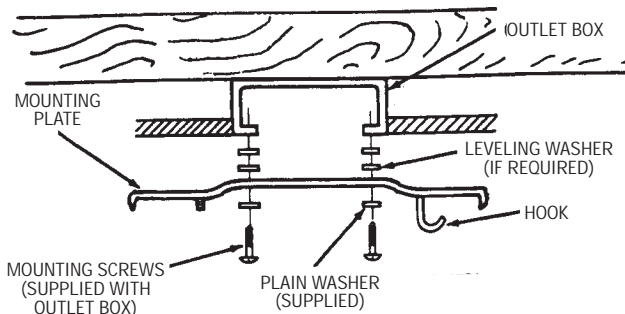
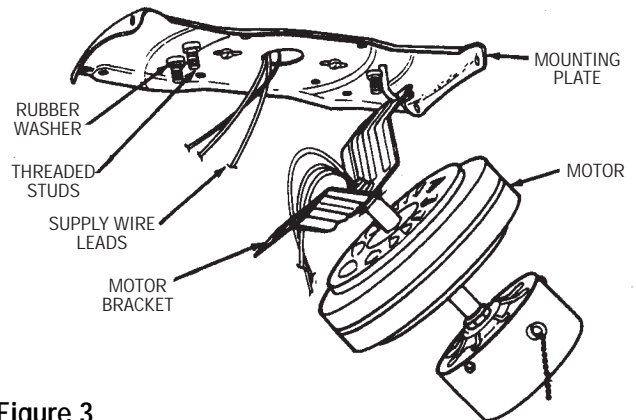

Figure 2
Figure 3
1. Securely attach the mounting plate to the outlet box (Figure 2) using two screws (supplied with outlet box). Pull the black, white and ground wires out of the outlet box through the hole in the mounting plate and lay them to the side as shown in Figure 3.
NOTE: For better fan performance make sure the mounting plate is level. Additional washers (not included) may be needed to insert between the electrical box and mounting plate (Figure 2).
3. Carefully lift the fan motor assembly and engage the slot in the motor bracket with the hook on the mounting plate so that it is securely suspended (Figure 3). Then connect wiring to your fan according to section "HOW TO WIRE YOUR CEILING FAN".